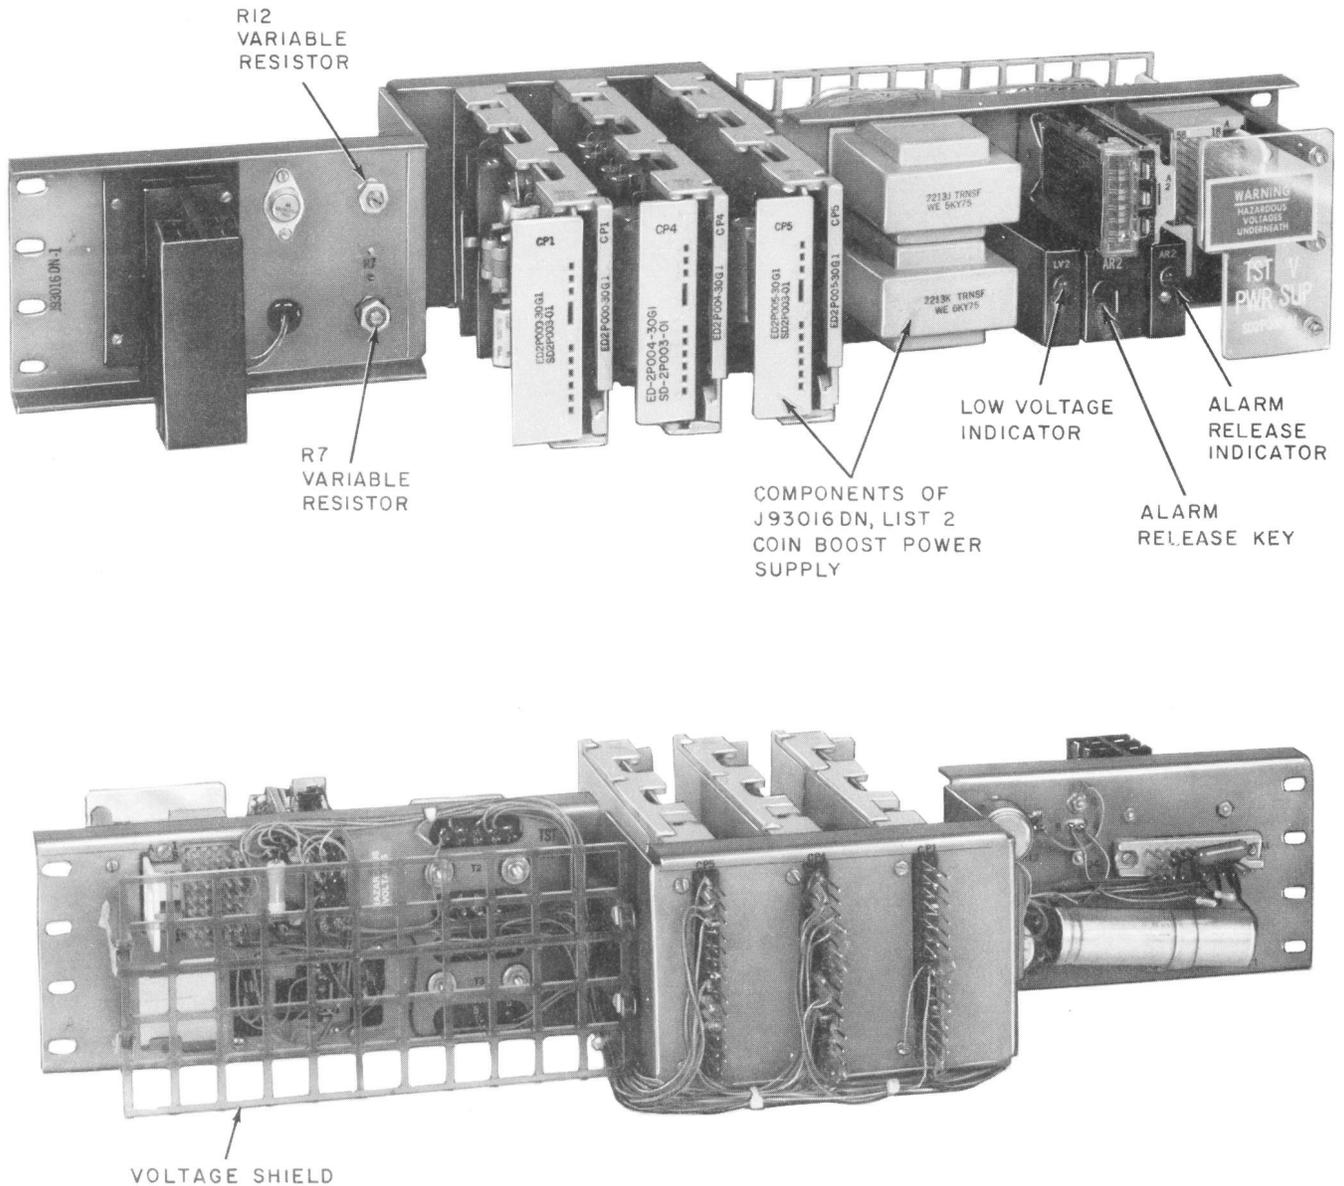

Fig. 2—Front and Rear View of J93016DN Test Voltage Power Supply Unit
(b) One J93016DN, List 1 test voltage power supply unit (Fig. 2) provides an output of +118 volts, -118 volts, and +200 volts. The negative and positive 118 volts is used for making the station ringer and coin relay tests. The 200-volt output is used for the insulation breakdown test. The voltage output from one J93016DN, List 1 unit may be shared by eight No. 14 LTD positions or ten No. 16 LTD positions.
(c) One J93016DN, List 2 unit, when combined with the J93016DN, List 1 unit, provides a voltage boost for the coin relay test. The J93016DN, List 2 unit (Fig. 2) boosts the negative and positive 118 voltage by 45 volts and provides an output of +163 volts and -163 volts. The J93016DN, List 1 and List 2 provide a power supply which may be shared by eight No. 14 LTD positions or ten No. 16 LTD positions.
3.02 When adding the components for the J93016DN, List 2 coin boost voltage power supply (Fig. 2) to the J93016DN, List 1 test voltage
power supply unit (Fig. 2), the connector for the CP5 circuit board and the transformer must be locally wired.